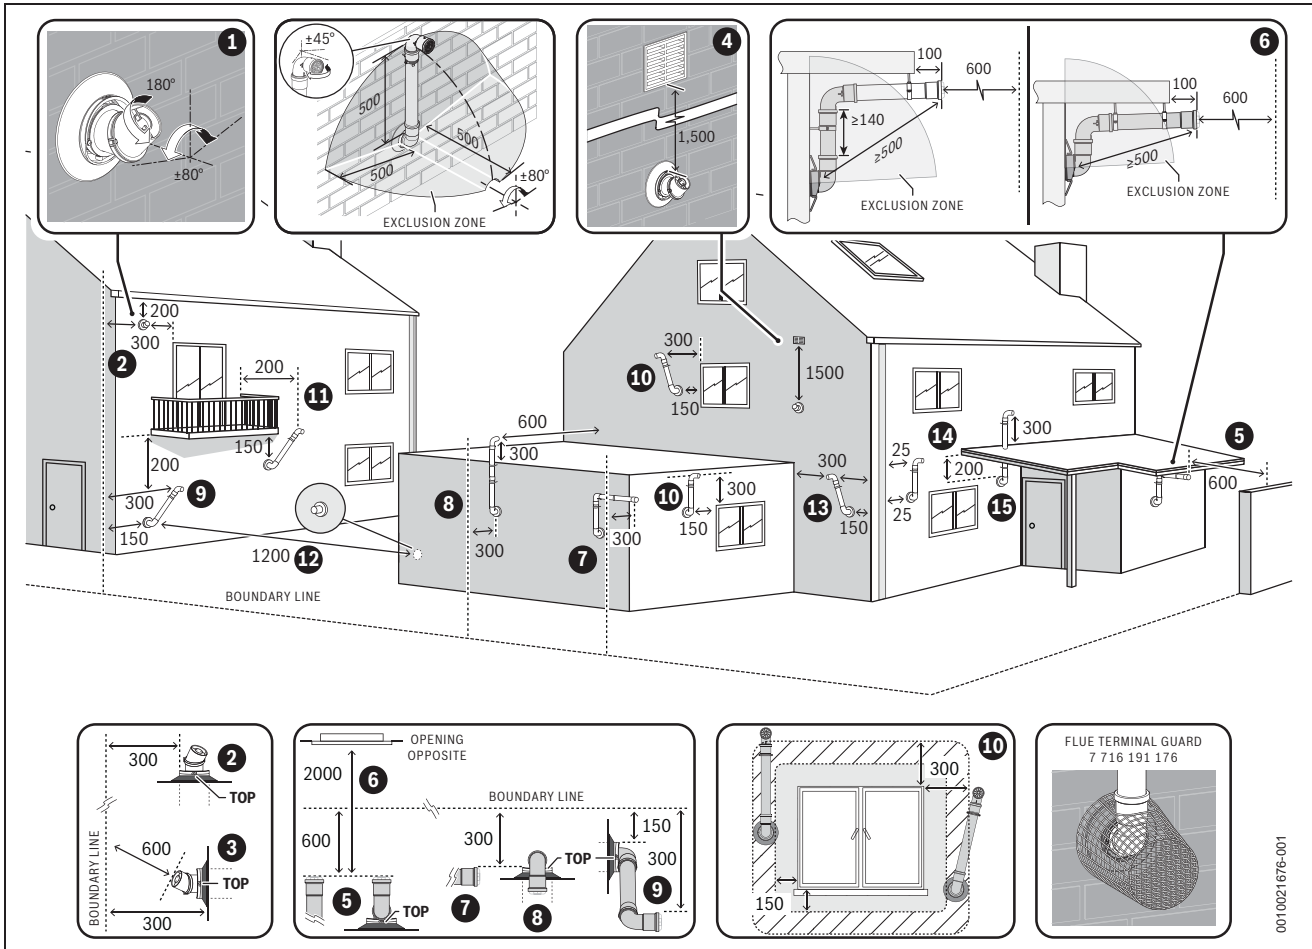

Fig. 35 Plume re-redirect and plume management terminal positions
- ▶ Refer to “Horizontal flue terminal positions” for all concentric flue terminal positions unless the flue position is specified in figure 35 “Plume re-redirect and plume management terminal positions”.
**Key to figure 35 - Plume re-direct terminal positions:**
**Key to figure 35 - Plume management terminal positions:**